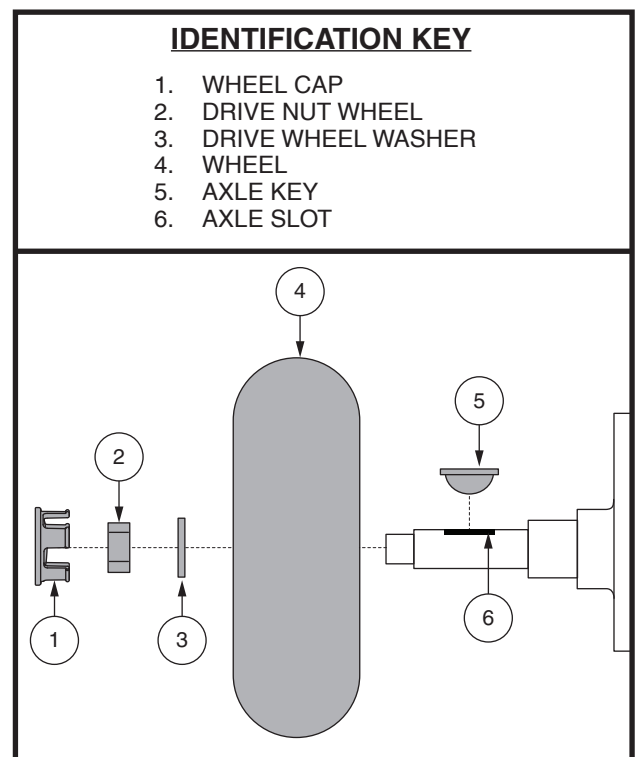

Figure 20. Wheel Removal
3. Remove the wheel cap, drive wheel nut and washer from the axle. See figure 20.